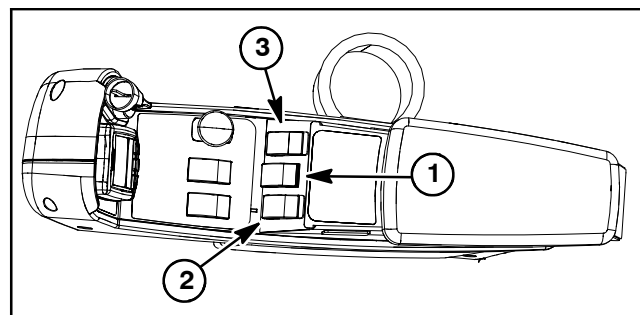

Figure 12
The Groundsmaster 4700-D has three (3) lift switches to control the cutting decks (Fig. 12). The center switch is for the five (5) center decks, the left switch controls the left, rear deck (#6) and the right switch controls the right, rear deck (#7) (Fig. 13).